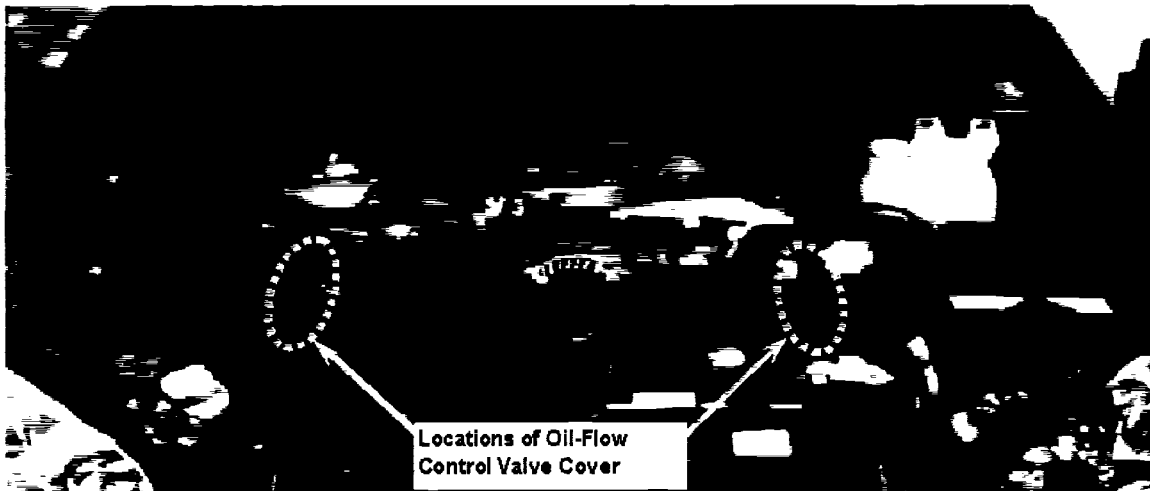

Fig.5: Locations of Oil-Flow Control Valve Covers
5) Overview of component locations (See Fig. 5 through 7):